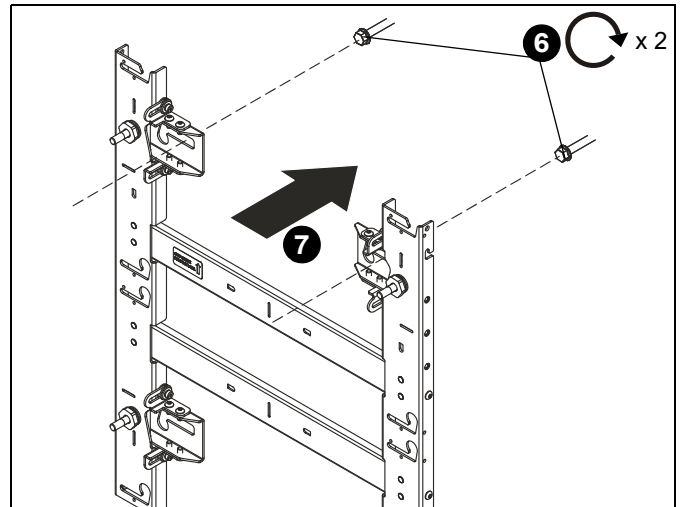

**Figure 6**
4. Mark mounting holes in two top mounting slots along the horizontal line marked in Step 3 of **Assessing the Installation Site** section. (See Figure 6)
**NOTE:** The mounting holes are 14-1/4" apart on-center. (See Figure 6)
5. Drill two pilot holes (see Table 1 for size) at each location marked in Step 4 (See Figure 6) and follow fastener information (appropriate for wall type) located in Table 1.